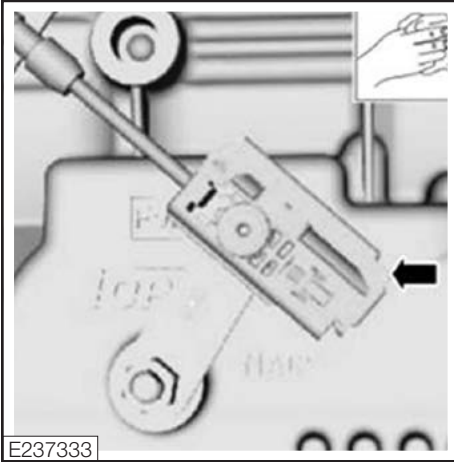

Figure 91
1. Clean the cable adjuster lock (Fig. 91).